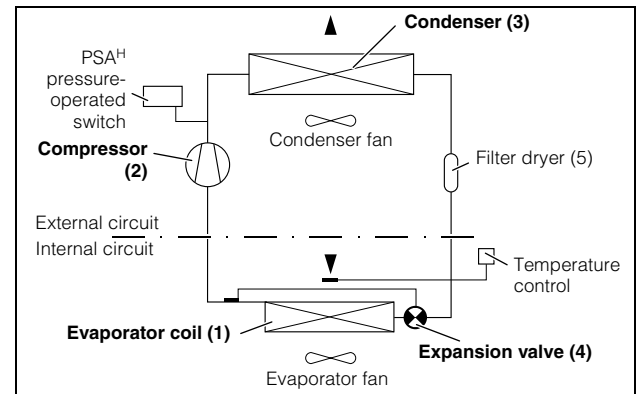

Fig. 2: Cooling circuit
The cooling unit (compression refrigeration system) is comprised of four main components (cf. Fig. 2): the evaporator (1), the coolant compressor (2), the condenser (3), and the control or expansion valve (4), which are connected by suitable pipework. This circuit is filled with a readily boiling substance, the refrigerant. Coolant R134a ( $\text{CH}_2\text{FCF}_3$ ) is chlorine-free. Its ozone destruction potential is 0, making it very eco-friendly. A filter dryer (5) which is integrated